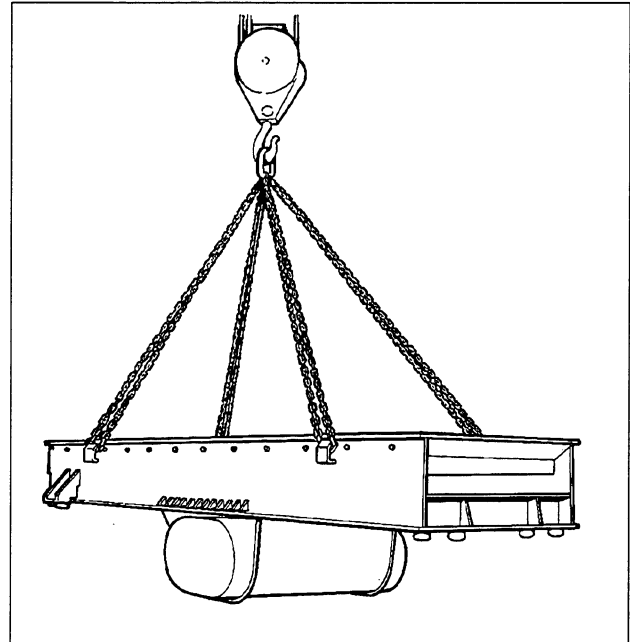

Figure 7-3. Lifting the Feeder
This section describes the removal and replacement of the vibrating unit from an installed vibrating feeder assembly. Refer to Figures 7-3 and 7-4.
5. Attach suitable hoisting equipment to the lifting lugs on the feeder (see Figure 7-3).
2. Attach suitable hoisting equipment to the lifting lugs on the feeder frame. Refer to Figure 7-3.